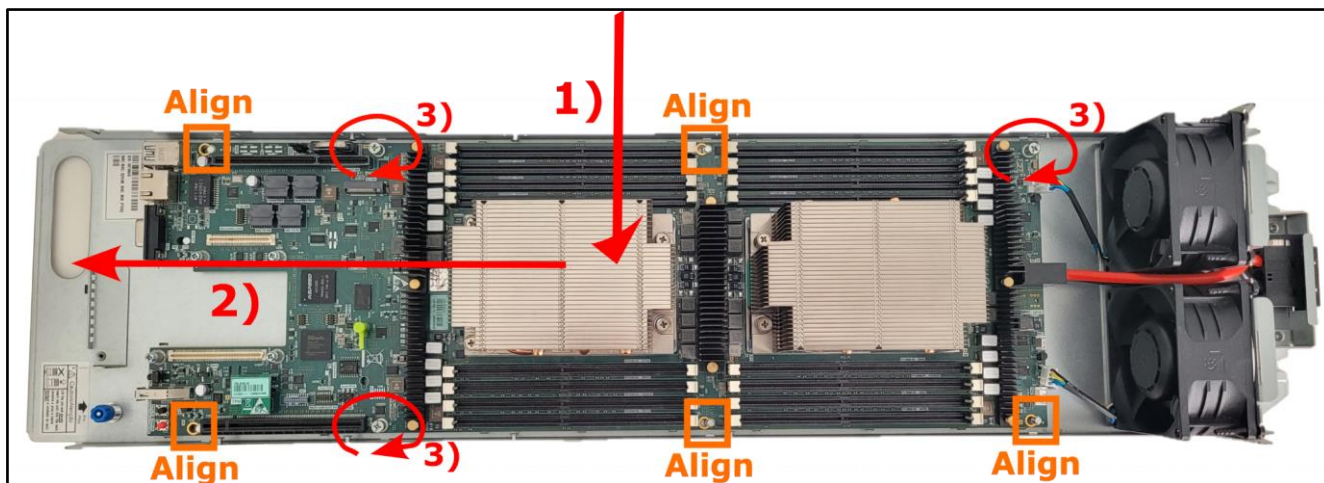

Figure 105: Motherboard installation
1. Position the motherboard over the baseplate, aligning the holes present in the border of the board with the guiding pins of the baseplate, and move it down until it fits completely (step 1 on Figure 105).
2. Move the motherboard frontwards to complete the fixing process (step 2 on Figure 105) and then tighten the three screws completely using a screwdriver (step 3 on Figure 105).